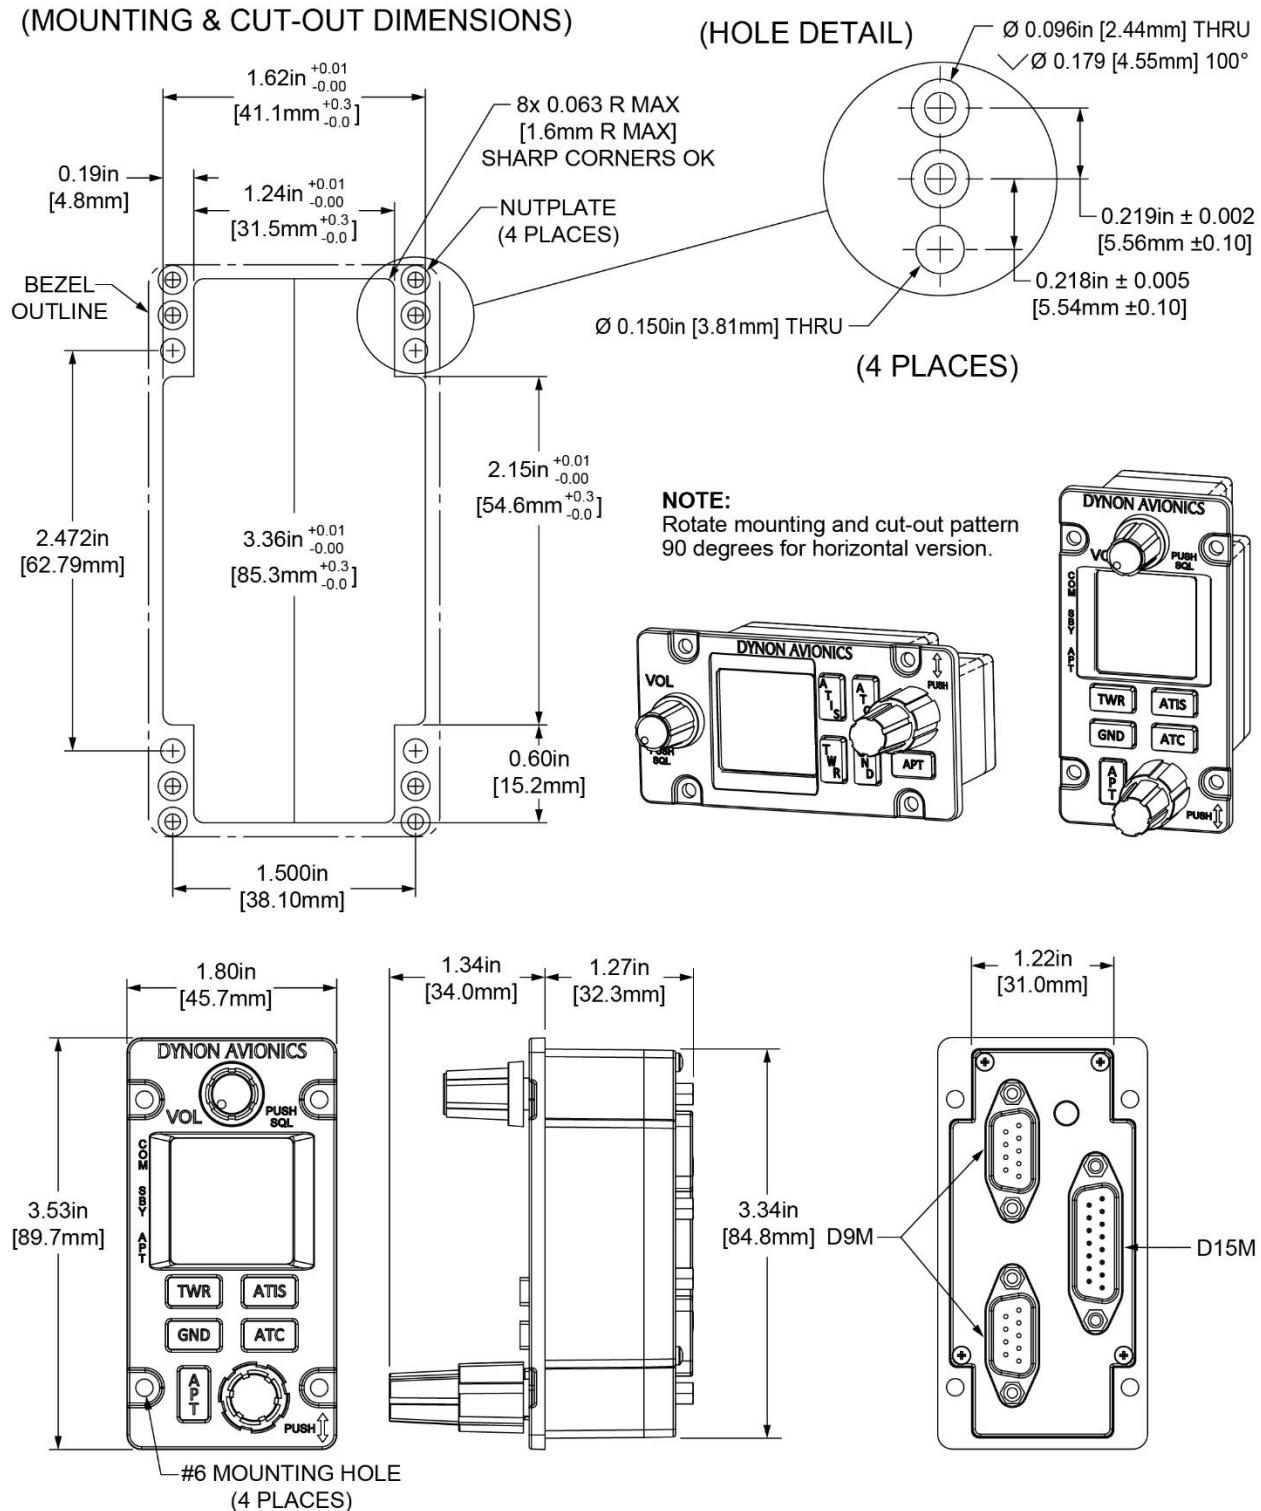

Figure 197 – SV-COM-PANEL Panel Cut-out and Mounting Dimensions
- Panel Cutout: (irregular – see Figure 197)